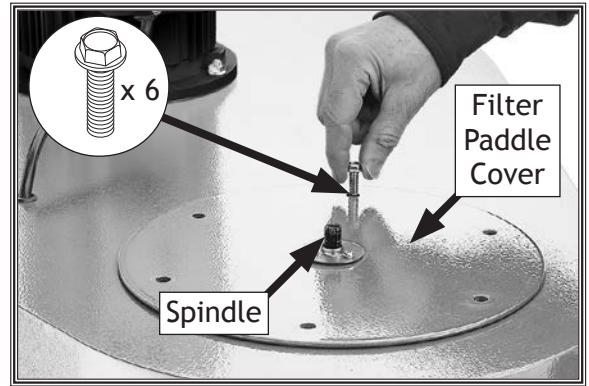

Figure 61. Removing filter paddle cover.
4. Remove (6) $\frac{5}{16}$ "-18 x $\frac{3}{4}$ " flange bolts securing filter paddle cover to impeller housing, then lift cover over spindle (see **Figure 61**).